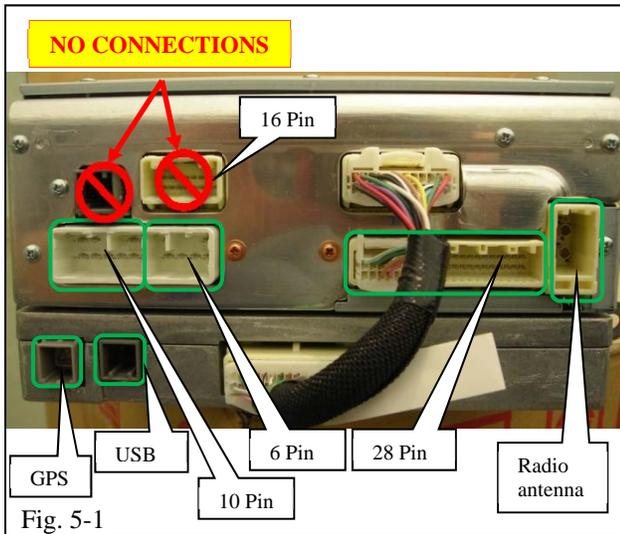
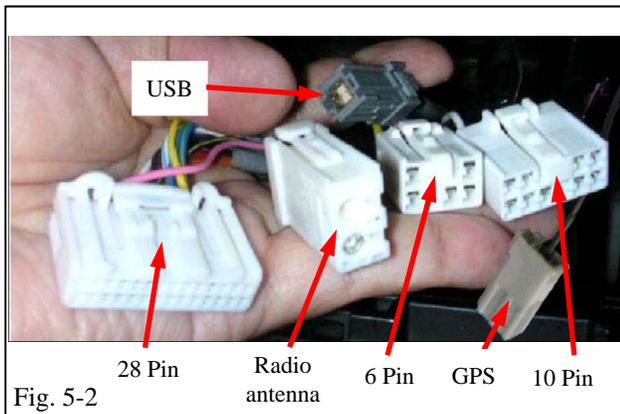

Fig. 5-1
Fig. 5-2
- (a) Connect the radio antenna cable, 28 Pin, 6 Pin, and 10 pin harness connector cables to the DA radio (Fig. 5-1 & Fig. 5-2).
- (b) Connect the USB cable and GPS antenna cable to the extension module (Fig. 5-1 and Fig. 5-2).
**Do not connect the USB cable to the DA radio. The USB cable must be connected to the extension module (Fig. 5-1).**
**No harness connection should be made to the 16 pin connector (Fig. 5-1).**
- (b) Press the "Source" button on the touch screen (Fig. 5-2).